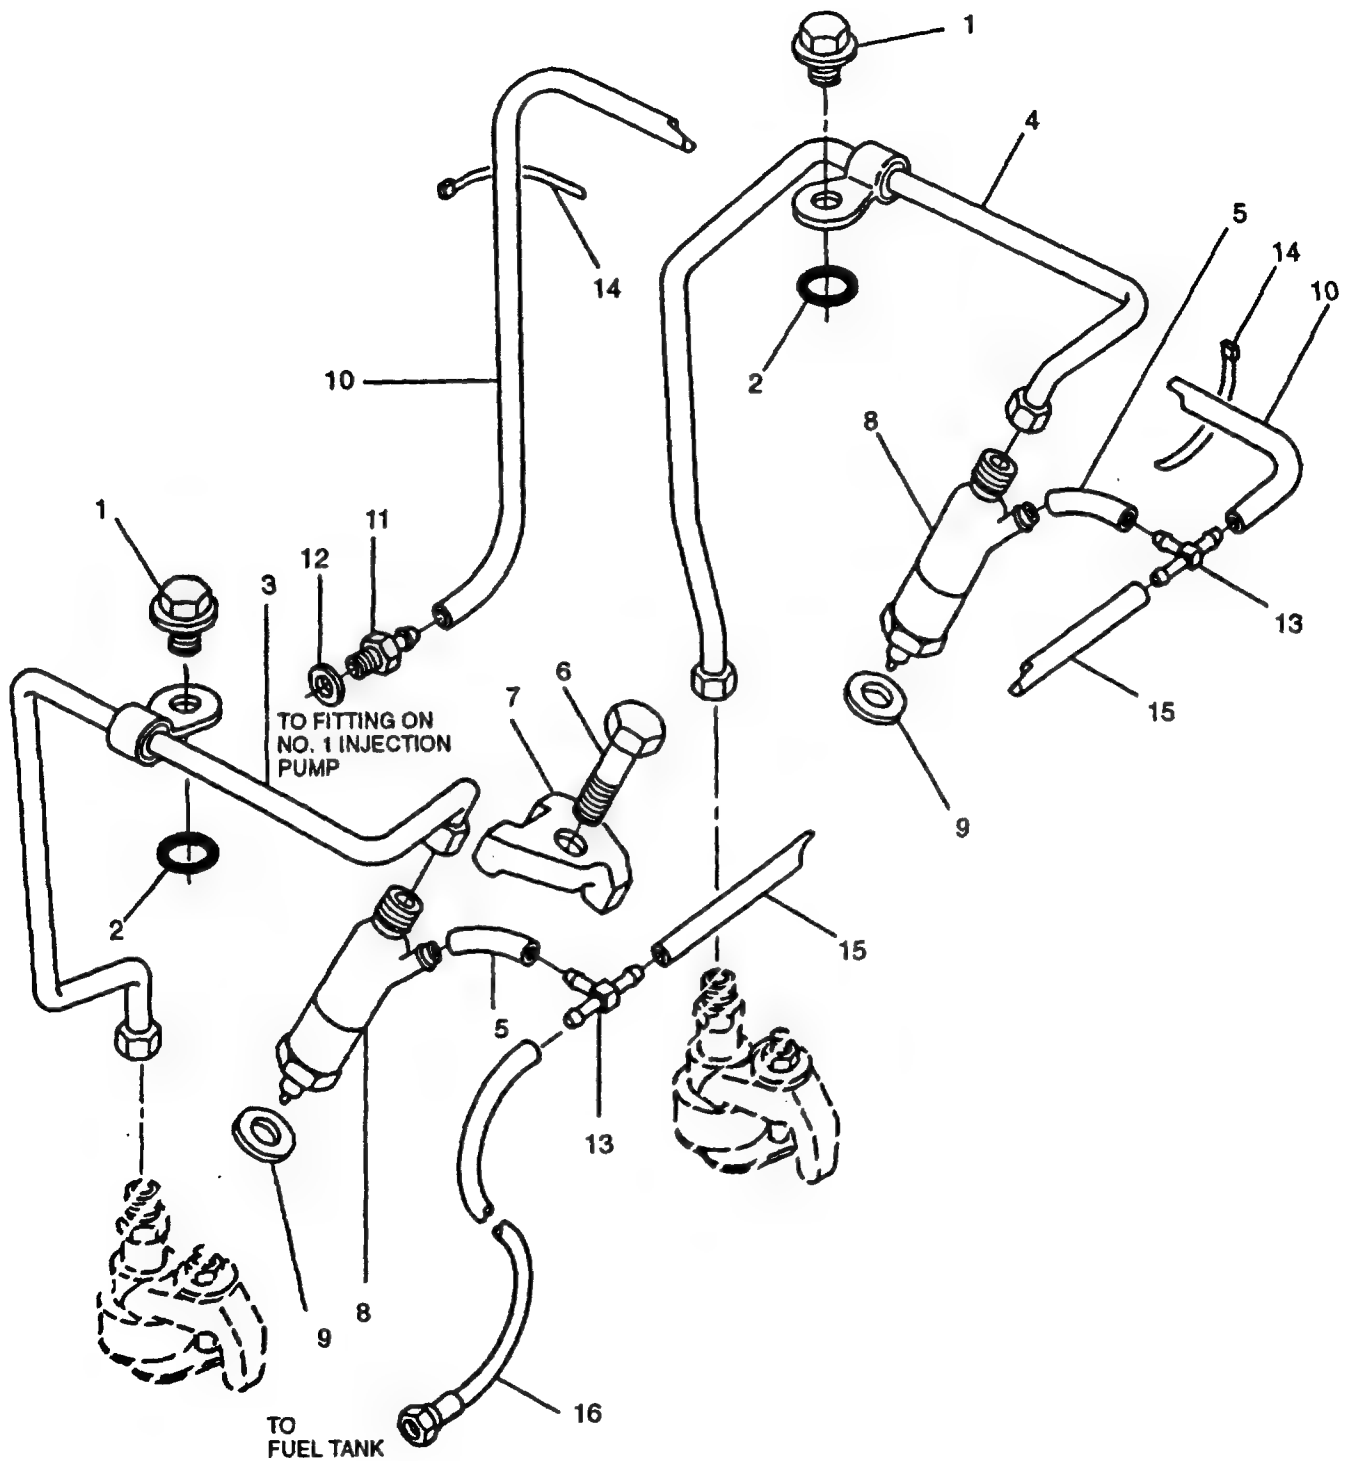

FIGURE 3-13. Fuel Injectors, Fuel Injector Pipes, and Fuel Return Line
- a. Disconnect and remove fuel injector pipe 3-3. or 4, **FIGURE 3-13**, refer to **paragraph 3-18.1**
- b. Disconnect fuel return hose (5) from injector (8).
- c. Remove bolt (6) securing clamp (7); remove clamp.
- d. Remove fuel injector (8) from cylinder head.
- e. Remove injector copper sealing washer (9) from cylinder head taking care not to damage seating area.
If injector sealing washer (9, FIGURE 3-13) has been used more than once it will become compressed and may adversely affect combustion. It is recommended that new injector sealing washers are installed on assembly. Ensure that two washers are not installed to an injector.
- a. Disconnect hose (10, FIGURE 3-13) from union (11).
- b. Remove union (11) and washer (12) from end of fuel supply hose.
- c. Disconnect hose (10) from tee fitting (13). Remove tiedown straps (14) and remove hose (10). Discard tiedown straps.
- d. Remove two hoses (5) from fuel injectors (8) and tee fittings (13).
- e. Remove tee fittings (13) from hose (15); remove hose (15).
- f. Disconnect hose (16) from tee fitting (13); remove hose (16).
- g. Loosen nuts on fuel injector pipes (3 and 4) at fuel injection pump and fuel injector (8).
- h. Remove cylinder head cover nuts (1) securing fuel injector pipes (3 and 4) clips; remove pipes (3 and 4). If damaged, replace preformed packing (2).
- b. Connect fuel injector pipes (3 and 4, **FIGURE 3-13**) to fuel injectors (8) and fuel injection pumps. Tighten nuts finger tight.
- c. Secure fuel injector pipe clips using cylinder head cover nuts (1). Tighten nuts to 78 in-lbs (8.8 Nm).
- d. Starting at fuel injector (8), tighten fuel injector pipes (3 and 4) nuts to 21.0 ft-lbs (28.5 Nm).
- e. Install tee fitting (13) into hose (16).
- f. Install tee fittings (13) in hose (15).
- g. Connect hoses (5) to tee fittings (13) and to fuel injectors (8).
- h. Connect hose (10) to tee fitting (13) and secure hose (10) with new tiedown straps (14).
- i. Install union (11) and washer (12) to end of fuel supply hose.
- j. Connect hose (10) to union (11).